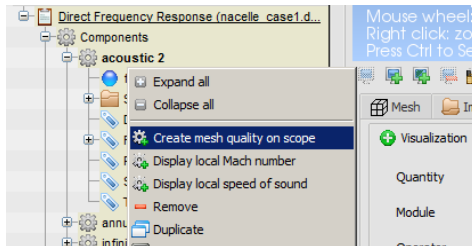

Figure 10.66: Create mesh quality for acoustic mesh
- Finite fluid in all frequency response analysis. A field representing the local number of elements per wavelength can be created in order to check the quality of the mesh. This can be done via the right-click menu of the Finite fluid component (Figure 10.66). This field takes into account the local refinement of the mesh (longest edge of each element), the local value of the speed of sound including flow effect (the direction of the flow if a velocity field is present), the maximal frequency used during the analysis and the properties of the fluid. In order to produce this result, the user needs to: